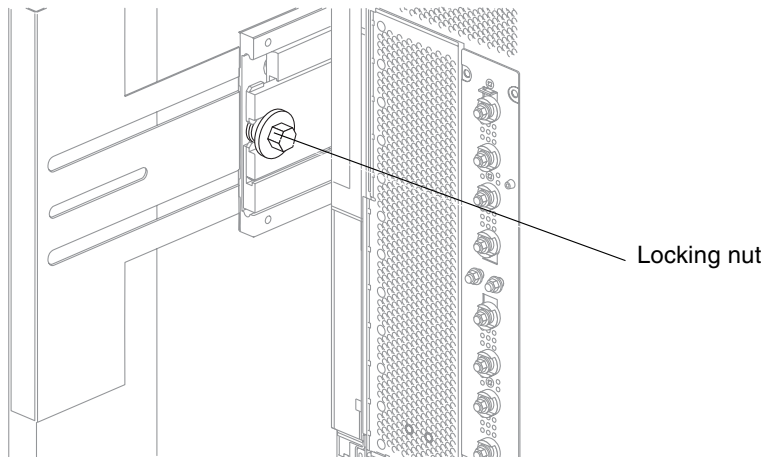

FIGURE 3-4 Slide Locking Nut
5. Loosen, but do not remove, the slide locking nuts at the rear of the system (FIGURE 3-4).
5. Tighten the slide locking nuts at the rear of the system (FIGURE 3-4).